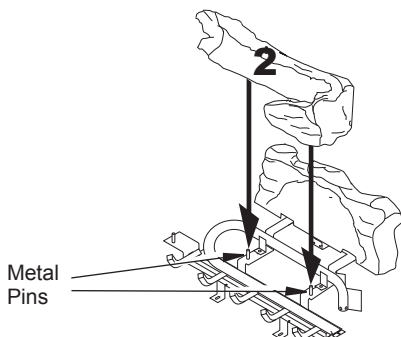

Figure 28 - Installing Log No. 2
2. Rest log #2 (front log) on pins on front part of grate (see Figure 28).